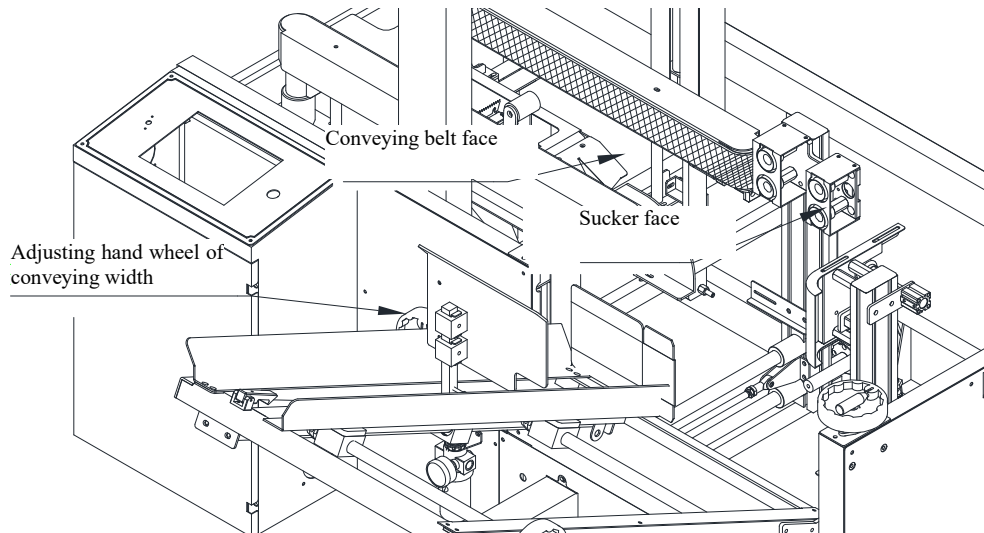

Figure 3
3) Rotate the carton fetching and regulating hand wheel (forward when rotating clockwise, and backward when rotating anticlockwise) to make the sucker face parallel with the belt face when the sucker is at the limit position. As shown in Figure 3: